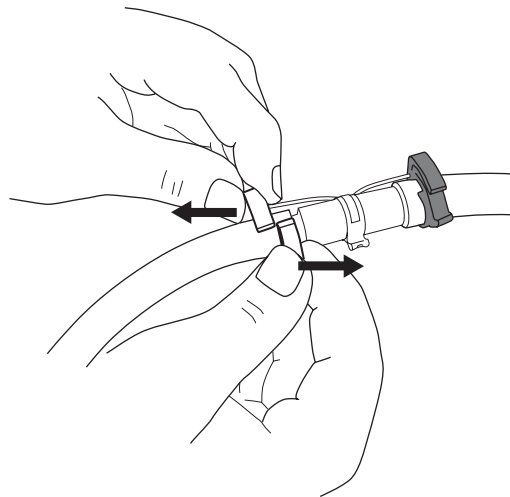

Figure 2-8 Releasing a tube coupler clamp
Release clamps by sliding the finger pad ends in opposite directions until the teeth disengage (Figure 2-8).
2.5.2 FEP-lined Suction Line Inserting a tube coupler into FEP-lined suction line will damage the thin lining. Instead, refer to Figure 2-8 and the instructions below to attach FEP-lined suction line to the pump tube: